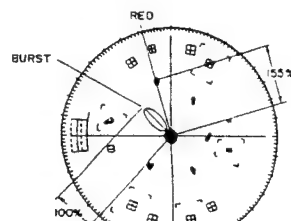

Fig. 4-45
- When using a vectorscope (Fig. 4-45)
- 3) Press the **[U]** and **[D]** keys so the red vector is $155\% \pm 10\%$. (Fig. 4-45)